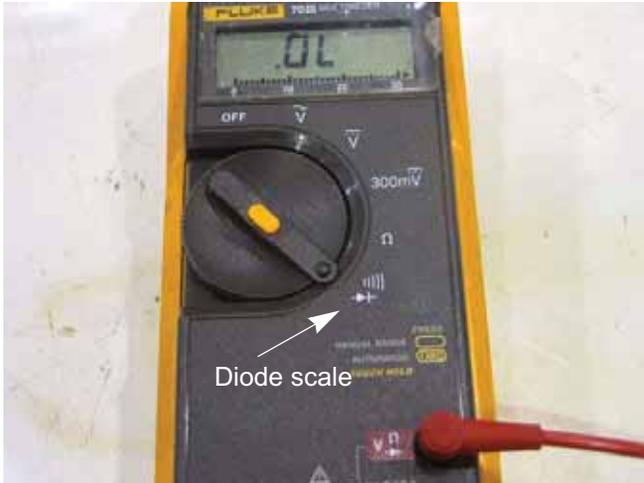

Figure 7.47
- 12b. Set the DMM to the diode or  $\Omega$  scale. See Figure 7.47.